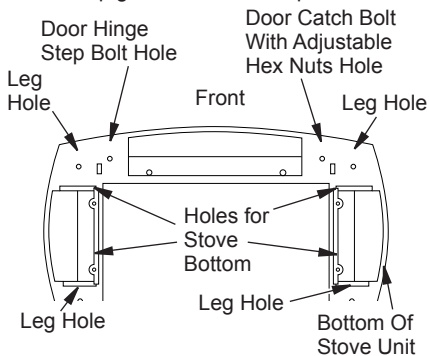
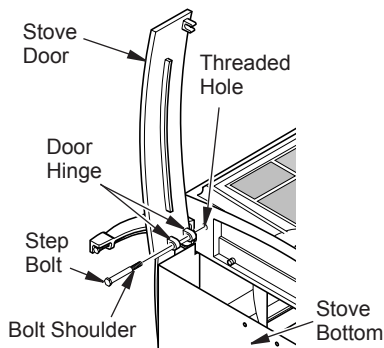
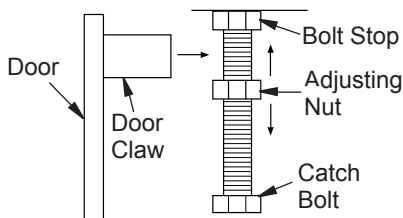

Figure 7 - Locating Threaded Holes for Stove Bottom, Legs and Door Attachment (Appearance May Vary Depending on Model)
Figure 10 - Attaching Stove Door (Appearance May Vary Depending on Model)
Figure 11 - Catch Bolt and Door Claw Orientation
7. Fasten each leg to stove with four M8 x 1.25 - 20 mm bolts. Use a flat washer and lock washer with each bolt. Tighten bolts into threaded holes on stove body (see Figures 7 and 8, page 10). Use an adjustable wrench or a 12 mm socket.
8. Attach stove door by inserting step bolt through door hinge pivot hole and into threaded hole in stove body (see Figure 7 and Figure 10). Use an adjustable wrench or a 12 mm socket to fasten step bolt. Tighten step bolt until snug. Make sure door moves freely.
10. Install door catch bolt (M8 x 1.25-55 mm with two M8 hex nuts) into threaded hole on stove body (see Figure 7). Use an adjustable wrench or a 12 mm socket. The catch bolt has two hex nuts attached to it (see Figure 11). Top nut is a bolt stop and bottom nut is for door leveling adjustment.
14. Fasten stove pan to stove with two M6 x 1 - 25 mm bolts. Use a flat washer and lock washer with each bolt. Tighten bolts into threaded holes on stove body (see Figures 7 and 9). Use an adjustable wrench or a 10 mm socket.